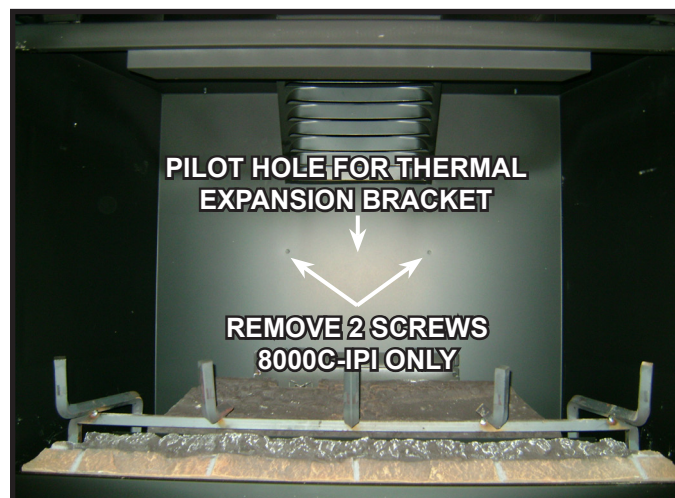

Figure 3. Remove Two Screws / Pilot Hole Location
1. Remove and keep the two screws from the back wall of firebox. See Figure 3.
3. Install a short self tapping screw in the center hole of the bracket and through the pilot hole in the firebox. See Figures 3 and 4.